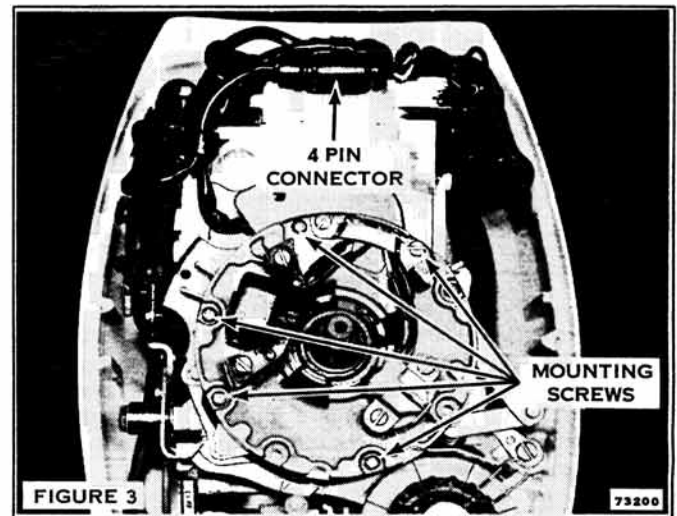

FIGURE 3
3. Remove armature plate leads from clamps, and disconnect 4 pin connector, Figure 3.
4. Loosen armature plate mounting screws and remove armature plate assembly. See Figure 3.